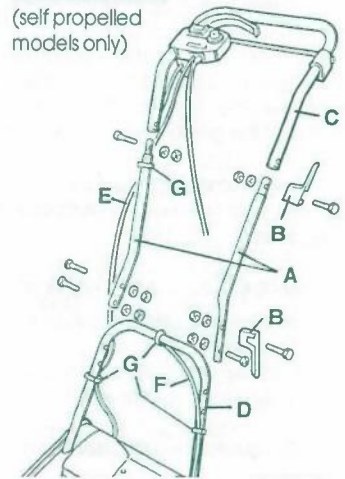

figure 1
- i) Attach the handle centres fig.1(A) and
one of the cable winders fig.1(B) to the handle top fig.1(C)
- ii) Attach the handle centres fig.1(A) and the remaining cable winder fig.1(B) to the handle bottom fig.1(D)
- iii) Route the cables using the cable clips as shown fig.1(G) - make sure the cable does not become trapped between the handles.